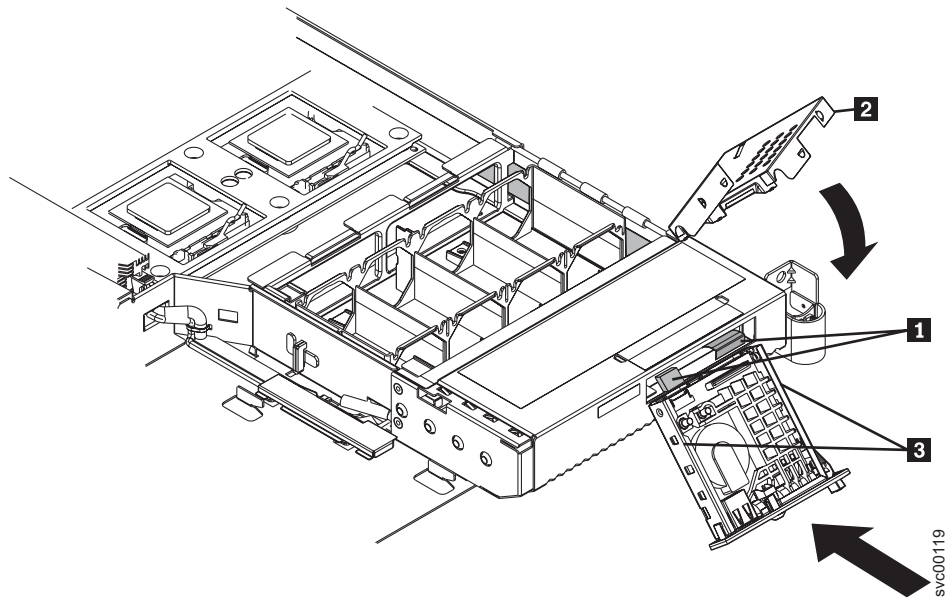

Figure 162. Replacing the operator information panel
1. Plug in the two cables on the rear of the assembly **1**. See Figure 162 on page 416.